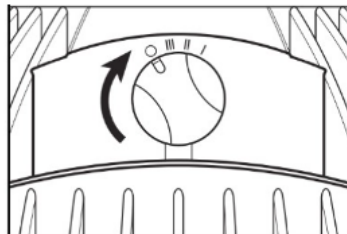

Fig. 3
1. Before connecting the cable to the power supply, make sure that the fan is turned off - the adjustment knob is in the OFF position (Fig. 3).
4. To start the fan, turn the adjustment knob to the desired fan speed: HIGH (III), MEDIUM (II) or LOW (I) (Fig. 3).